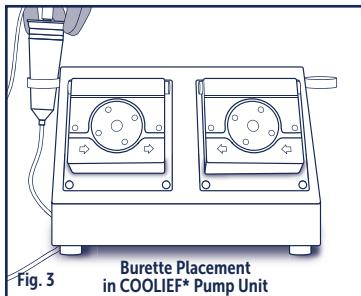

Fig. 3
1. Place the burette into the burette holder on the side of the COOLIEF® Pump Unit. The side of the burette with 2 or 3 ports indicates the top of the burette. (Fig. 3)